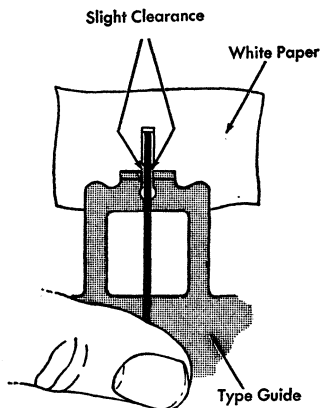

Figure 65. Type Bar Centered in Type Guide
1. After a new typebar is installed, first check it to see that it enters the type guide without striking either side. A piece of paper placed behind the type guide, but in front of the ribbon, helps in observing that there is a slight clearance between the type bar and the sides of the guide when the type bar is moved slowly into the guide by hand (Figure 65). The type bar may be formed to the